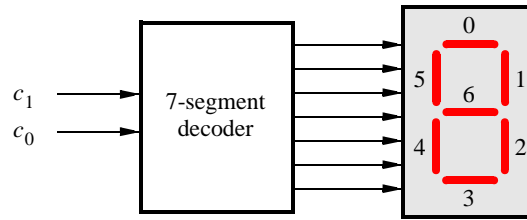

Figure 6: A 7-segment decoder.
The objective of this part is to display a character on a 7-segment display. The specific character displayed depends on a two-bit input. Figure 6 shows a *7-segment decoder* module that has the two-bit input c_1c_0 . This decoder produces seven outputs that are used to display a character on a 7-segment display. Table 2 lists the characters that should be displayed for each valuation of c_1c_0 for your DE-series board. Note that in some cases the ‘blank’ character is selected for code 11.
2. Create a Verilog module for the 7-segment decoder. Connect the c_1c_0 inputs to switches SW_{1-0} , and connect the outputs of the decoder to the *HEX0* display on your DE-series board. The segments in this display are called $HEX0_0, HEX0_1, \dots, HEX0_6$, corresponding to Figure 6. You should declare the 7-bit port